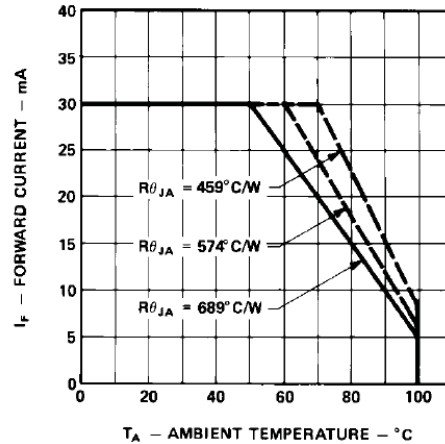

Figure 4. Maximum forward dc current vs. ambient temperature. Derating based on  $T_{J\text{ Max.}} = 110^\circ\text{C}$ .
2. Derate linearly as shown in Figure 4.